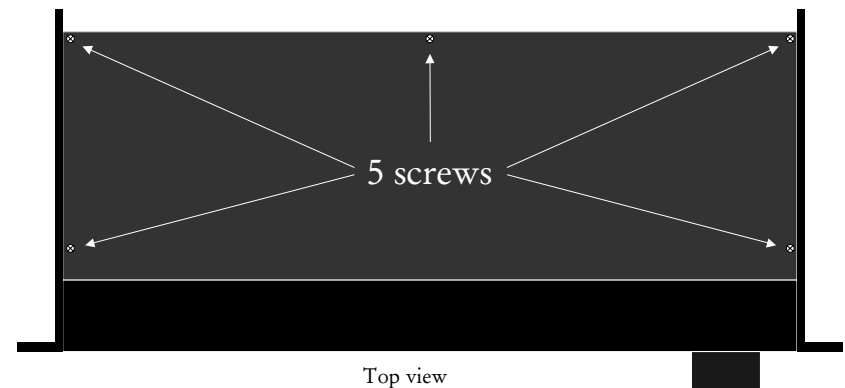

Fig. 1: Screws on top lid
3. Remove the top lid by loosening five screws, see fig. 1.